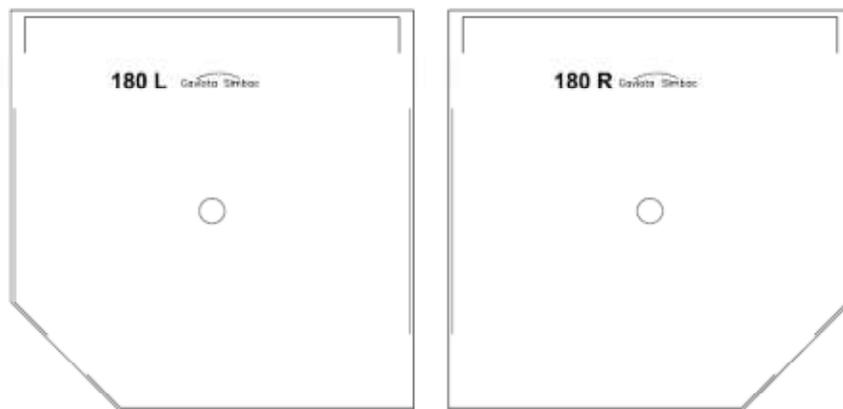

FIGURE 5
6. Attach the end caps to the sides of the hood cover. There is a left and right side for the end caps. The sides are marked on the inside of the end caps. (See FIG 5.) There is a spot on each end cap that is ground down. This should be facing the ground when installed.